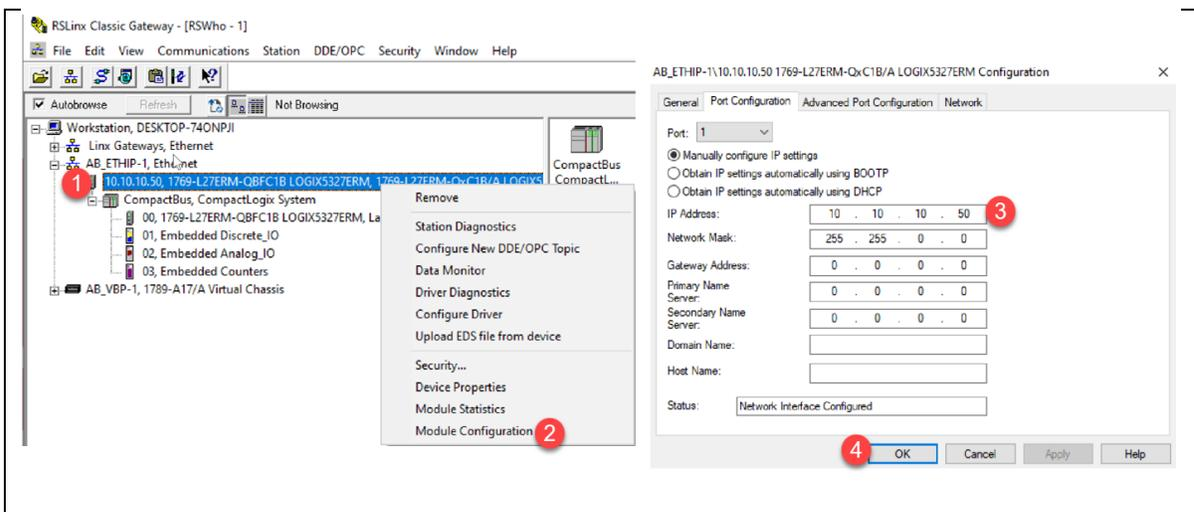

Figure 5. Viewing the IP address for the Ethernet port.
6. Use RSLinx Classic to view the IP address on the Ethernet port of the CompactLogix controller, as shown in Figure 5.